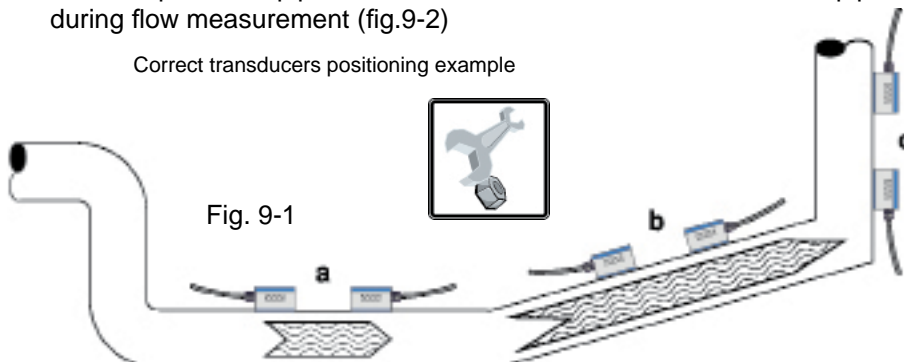

Fig. 9-1
- hydraulic circuit lowest point (fig.9-1/a);
- vertical pipes with the upward flow (fig.9-1/b);
- inclined pipes with the upward flow (fig.9-1/c);